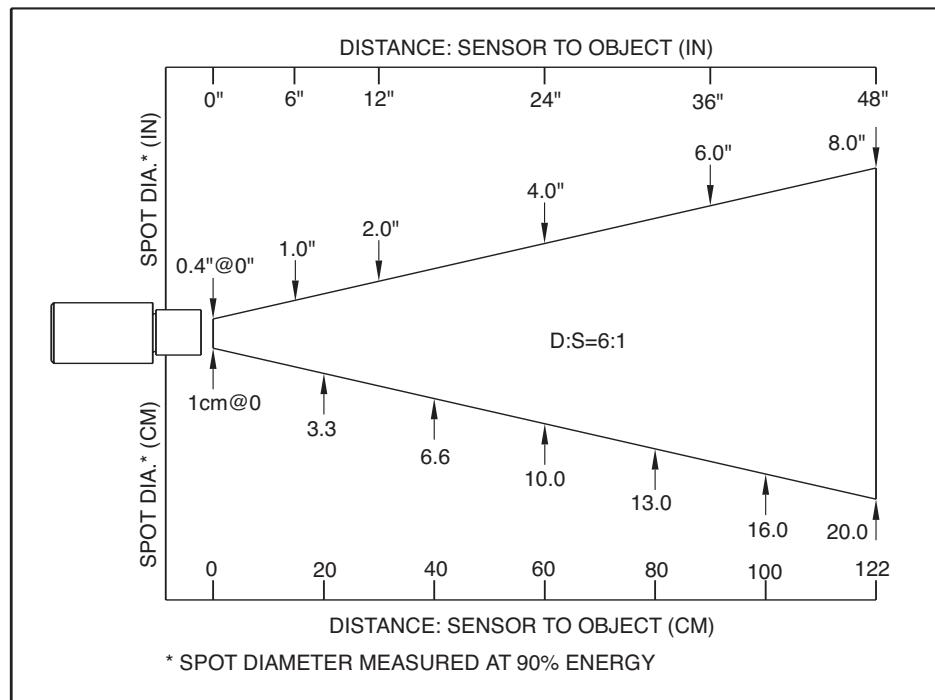

Figure 3-3. Optical Field Of View
- ✓ The target is larger than the optical field of view of the sensor head (Fig. 3-3).